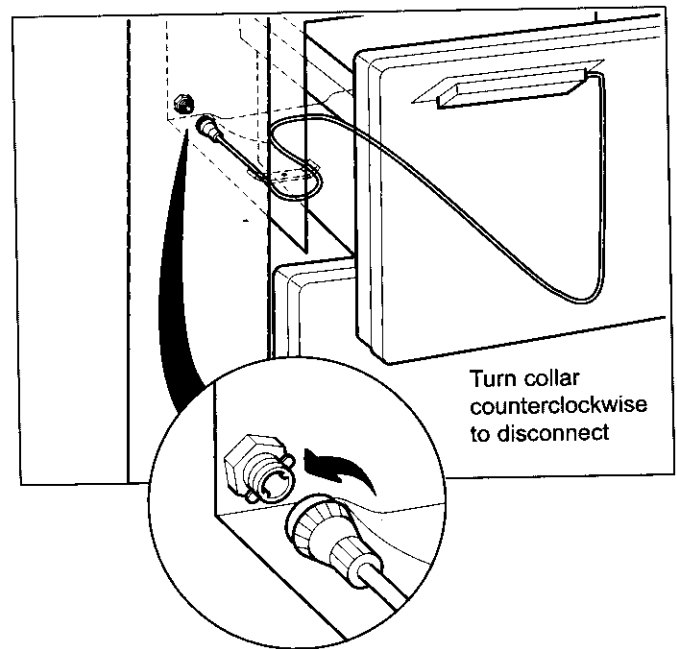

Figure 7-3. Disconnecting Control Cable
4. Disconnect control cable at interior left rear of unit by turning collar on connector counterclockwise and unplugging pins from socket (See Figure 7-3).